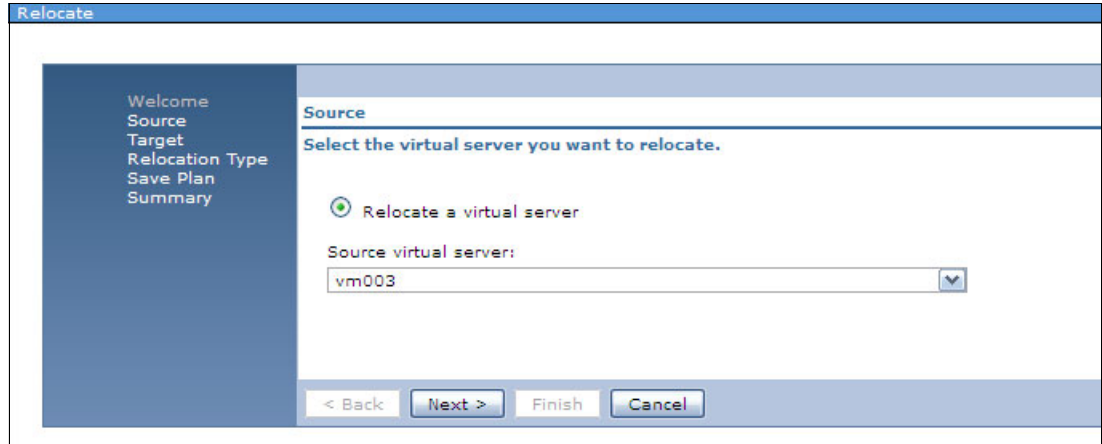

Figure 11-25 Relocate Welcome window
2. Verify the virtual machine name and click **Next**, as shown in Figure 11-25.